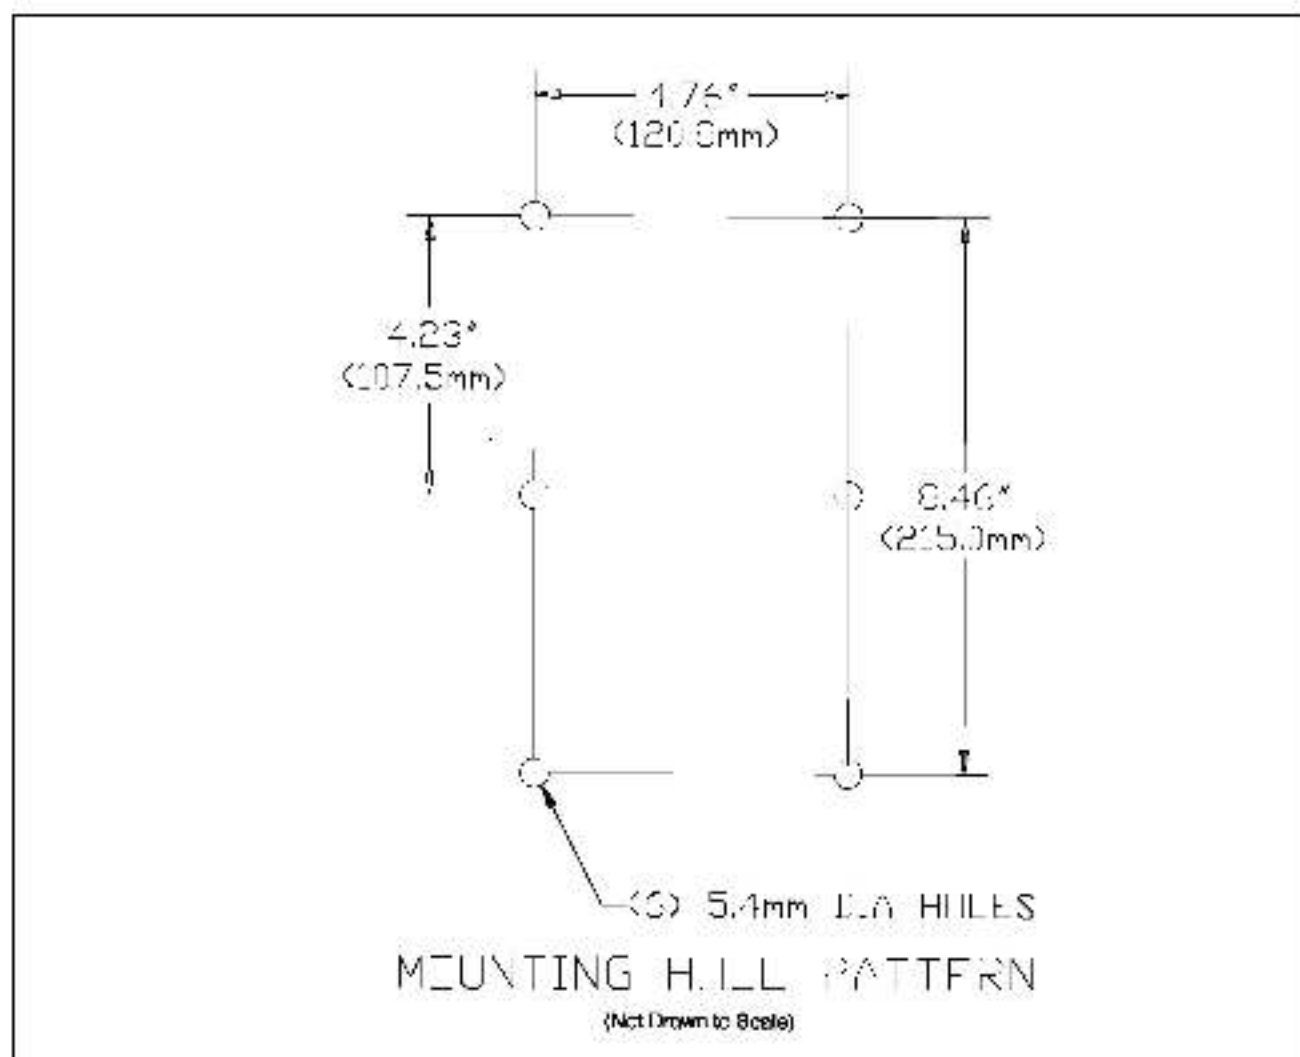

Figure 1 – Inverting Fault Circuit Breaker Mounting Bracket Hole Pattern
- Step 3. Drill the holes (5.4 mm diameter) for the six (6) M6 self-tapping screws [Item 3] provided for the inverting fault circuit breaker mounting bracket [Item 2]. Use the mounting hole pattern shown in Figure 1.